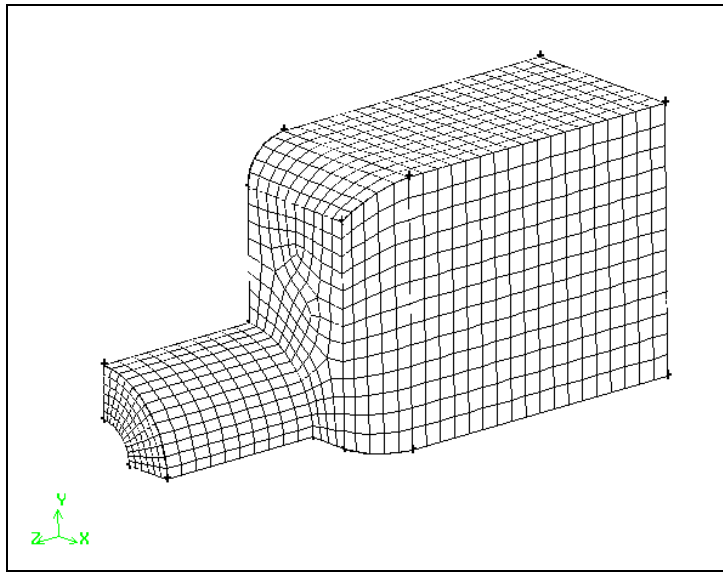

Figure 4-32: Volume mesh for the burner geometry
*This accepts the volume you selected as the one to be meshed and the source faces GAMBIT has chosen for the Cooper meshing scheme, and starts the meshing. The complete mesh is shown in Figure 4-32.*
*Notice that hidden line removal has been turned on in Figure 4-32 to make the mesh easier to see. To turn on hidden line removal, hold down the right mouse*